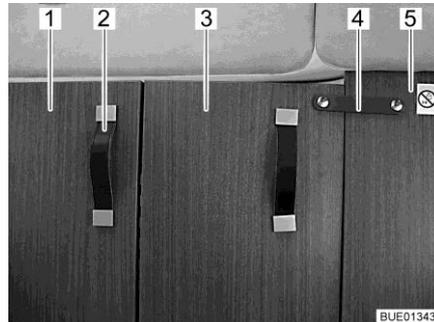

Fig. 54 Driver's cabin partition, closed
- Pull the driver's cabin partition (Fig. 54,1) completely inwards using the handle (Fig. 54,2).
- Using the securing strap (Fig. 54,4), secure the folding section of the driver's cabin partition (Fig. 54,3) to the fixed partition wall (Fig. 54,5) behind the front passenger seat.